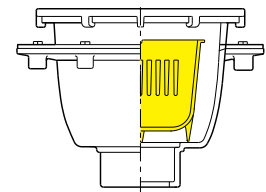

Fig. 8D
**Perforated or Slotted Sediment Buckets:** Both are suitable for normal installations to intercept and retain foreign materials and solids such as bones, pits, scrap, peelings and other commonly encountered debris. Perforated buckets (Fig. 8C) are regularly furnished with stainless steel models, and slotted buckets (Fig. 8D) with A.R.C. models. Perforated models have 1/4" round holes on 1/2" centers and will provide superior solids retention.